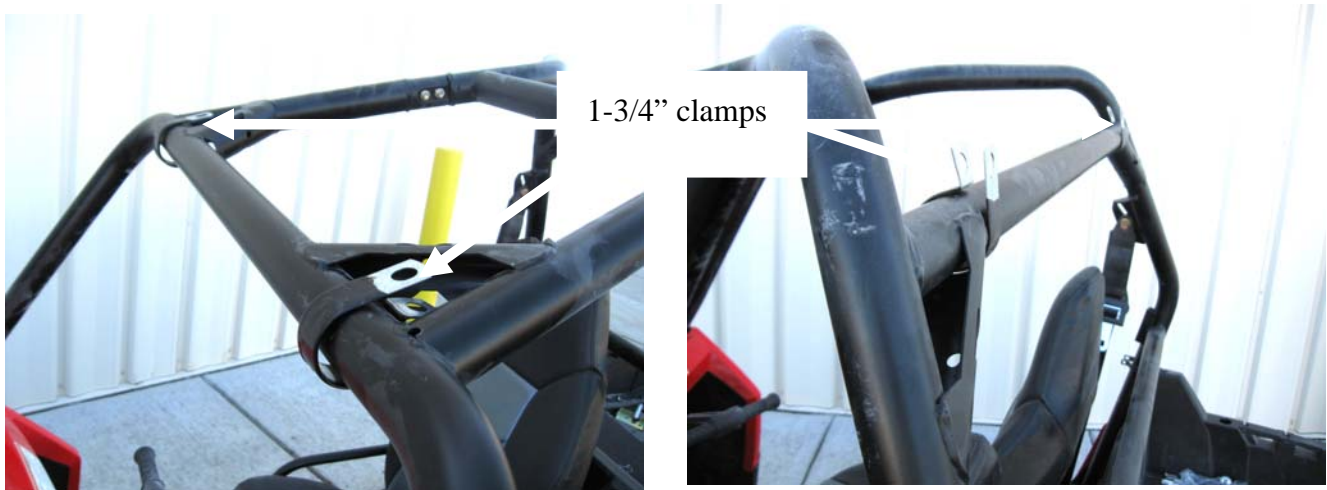

Figure 3
3. Installing the roof. (If installing roof only omit previous steps) Place clamps on the roll bar before setting roof in place, as shown in figure 3.